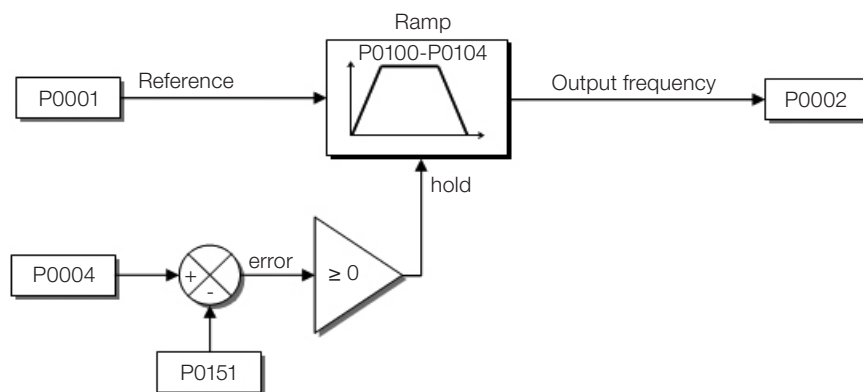
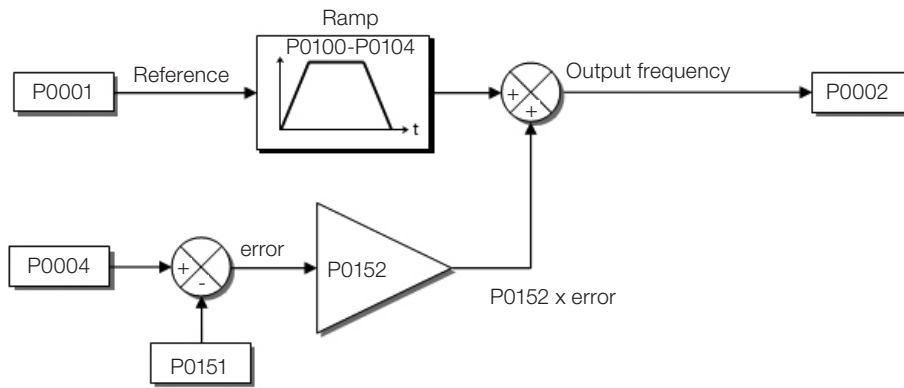
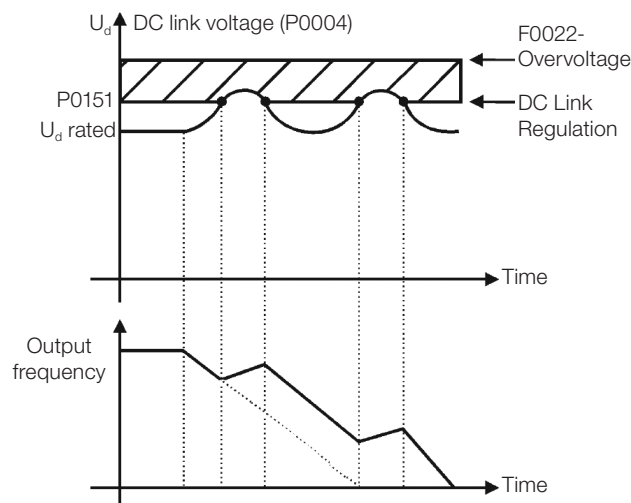

Figure 11.2: Block diagram DC link voltage limitation – Ramp Hold
Figure 11.4: Block diagram of DC link voltage limitation – Accelerate Ramp
Figure 11.5: Example graph of the DC link voltage limitation – Accelerate Ramp
- Actuation: the DC link voltage is measured (P0004) and compared to the value set in P0151; the difference between those signals (error) is multiplied by the proportional gain (P0152); the result is then added to the ramp output, as per Figure 11.4 on page 11-6 and Figure 11.5 on page 11-6.
Figure 11.2 on page 11-5 to Figure 11.5 on page 11-6 show the block diagrams and example graphs.